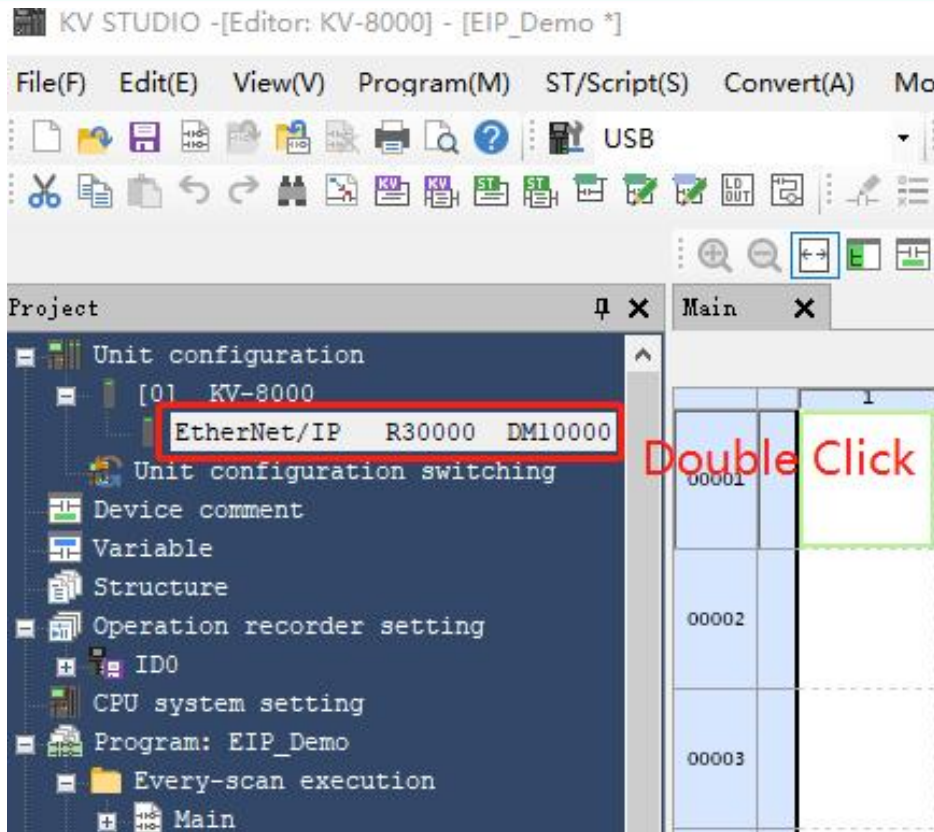
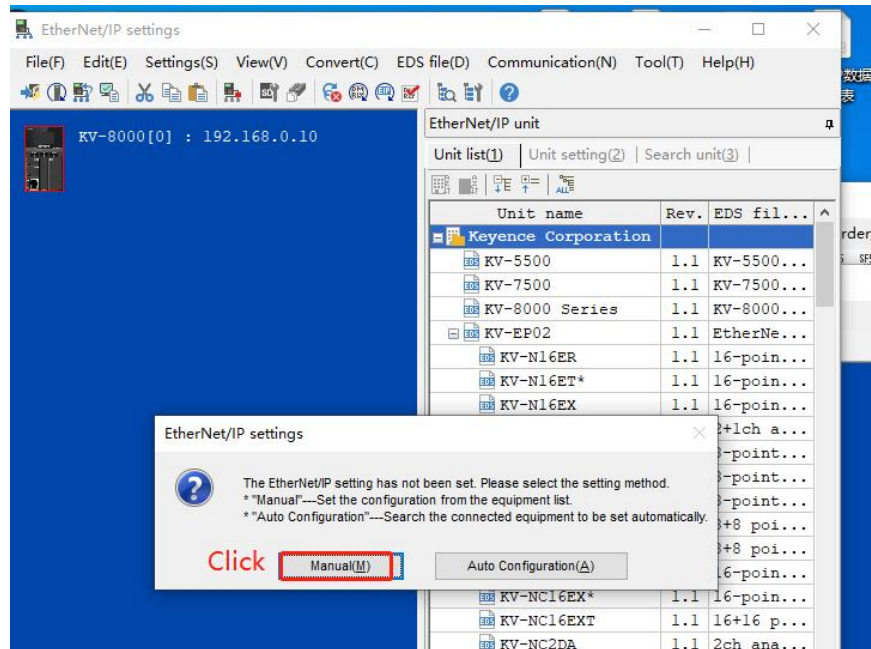

Figure 5-1-5
Figure 5-1-6
- As shown in Figure 5-1-5 to Figure 5-1-6, enter the "EtherNet/IP settings" interface.